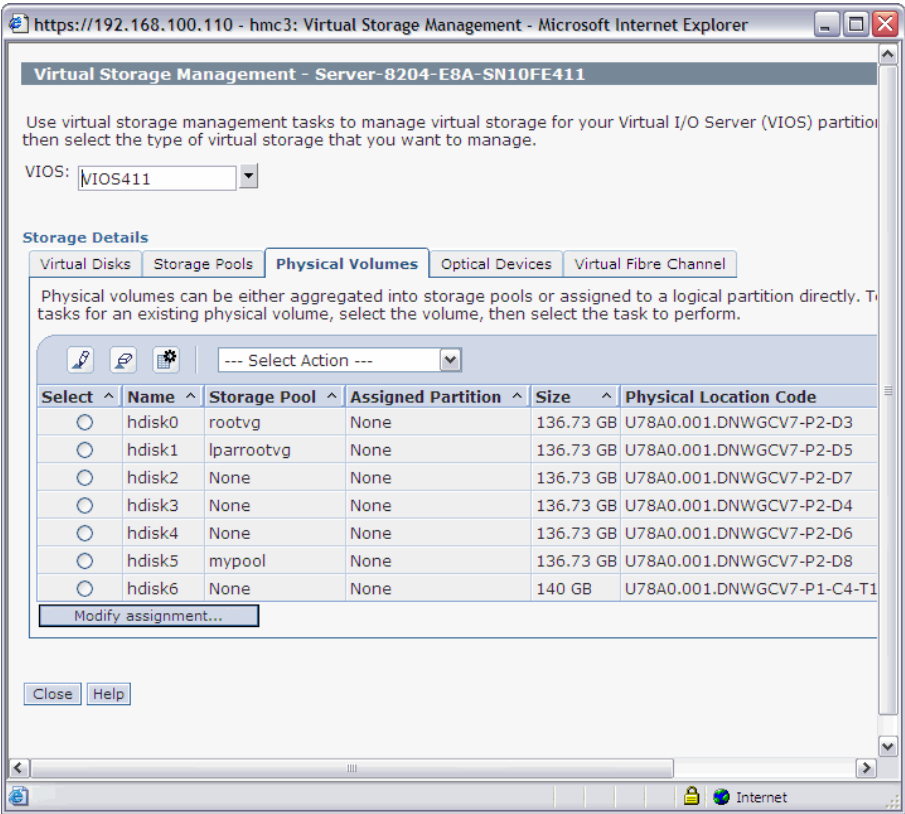

Figure 3-4 Physical Volumes
15. Because there is a physical disk in use here, you must navigate to the Physical Volumes tab, as shown in to Figure 3-4.